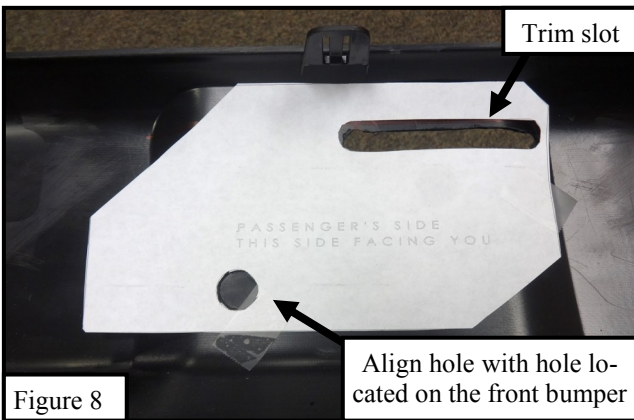

Figure 8
7. Remove the front plastic bumper insert. **Refer to Figure 5.** Locate the provided trim templates and align along the inside of the front plastic bumper insert. Follow instructions on the trim template and trim area as necessary. Reinstall front bumper. **See Figure 8.**